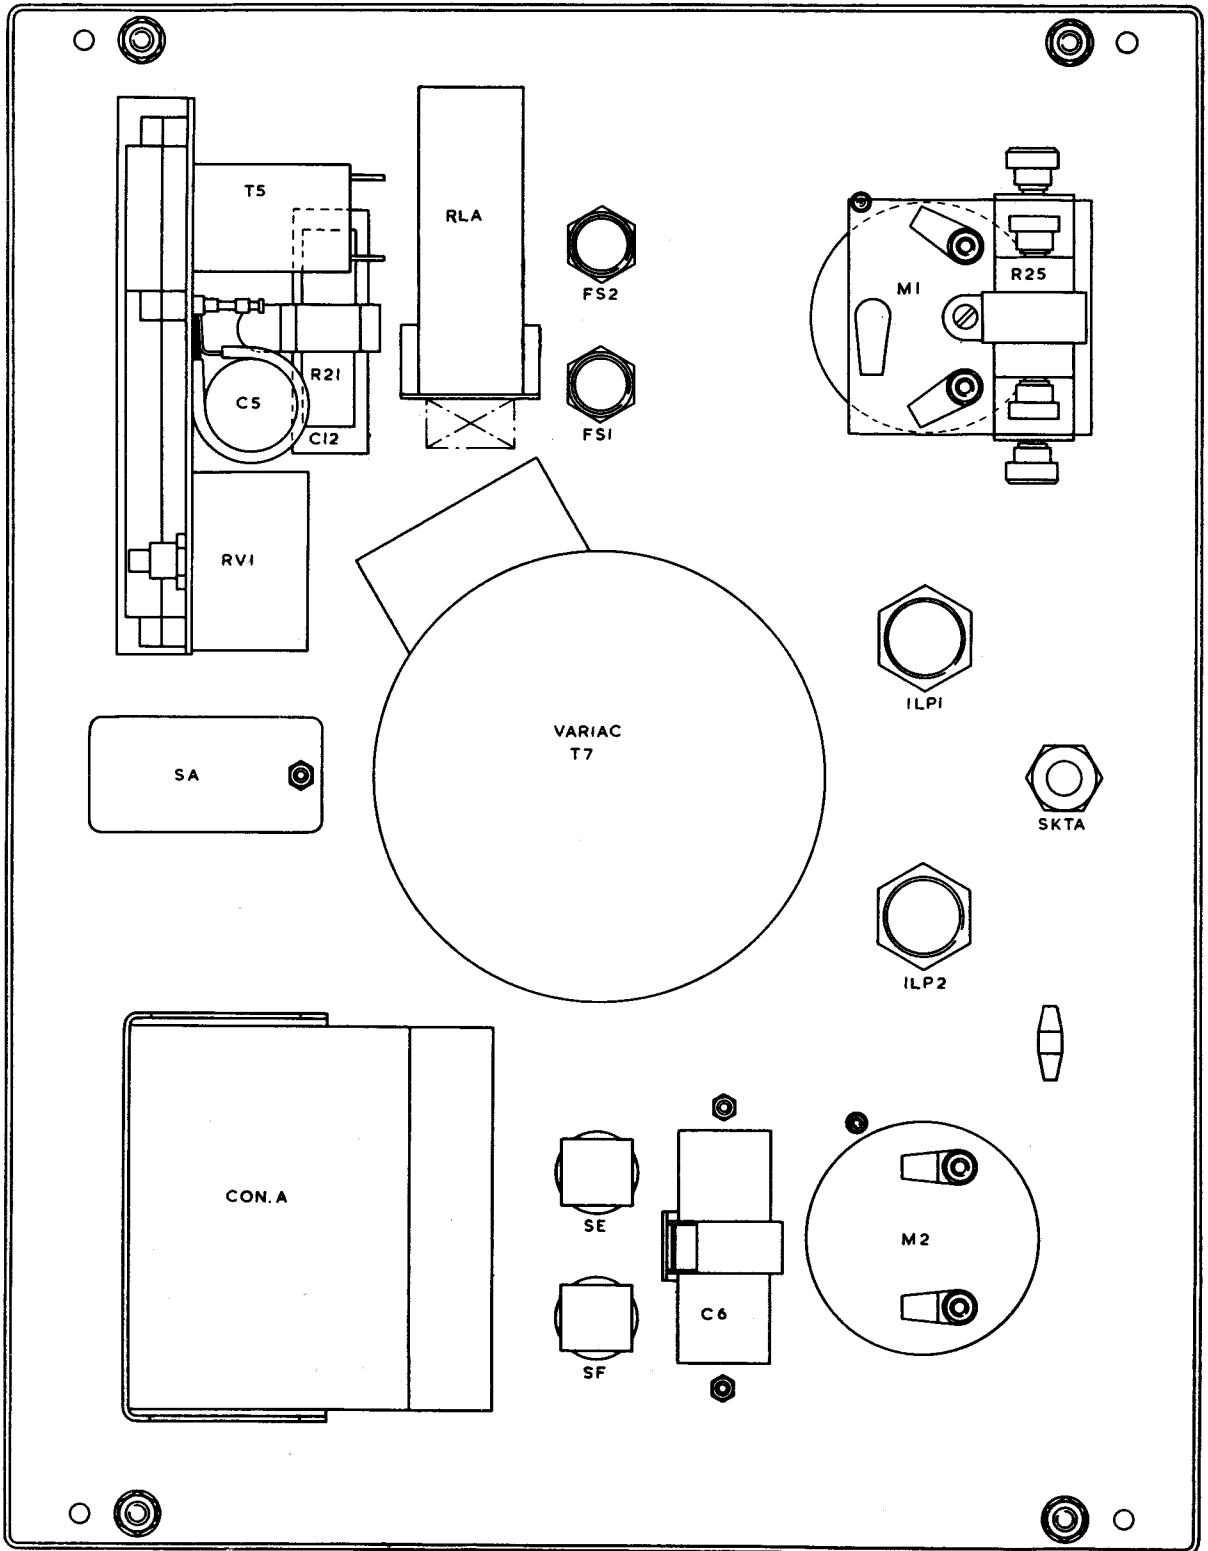

Fig. 6. Control panel : rear view
to contactor A mounted on the rear of the control panel (*fig. 6*). Contactor A closes and feeds the  $240\text{V}$  a.c. supply to transformer T5 and to variac T7, when the H.T. ON switch (SE) is operated. A  $6.3\text{V}$  a.c. supply is fed from the secondary of T5 to the H.T. ON indicator lamp ILP1. Variac T7 controls the level of the a.c. applied to e.h.t. transformer T4. The a.c. output of T4 ( $0\text{--}20\ \text{kV}$ ) charges the p.f.n. positive via the half-wave rectifier network of MR1–MR20. With the variac set to give a maximum a.c. output (i.e.  $240\text{V}$  a.c.) the p.f.n. charges to a maximum peak voltage of  $28.5\ \text{kV}$ . When thyatron V1 or V2 conducts (i.e. with the application of the firing pulses from the trigger circuit) the p.f.n. is discharged into the dummy load. The result is a  $1\ \mu\text{s}$  pulse (the total delay time of the p.f.n. (with an amplitude of half the voltage charge of the p.f.n. is developed across the  $50\text{-ohm}$  dummy load. The dummy load, R8–10, and R22–R24, is mounted in the rear of the trolley and is cooled by fan BL1.
14. Contact RLA1 is normally closed but opens if the mean current through the thyatron being pulsed exceeds a pre-determined level. Relay RLA is connected in series with the secondary winding of the e.h.t. transformer T4: RV1, connected across RLA, is normally adjusted so that relay RLA operates when the mean current through the thyatron being pulsed exceeds  $20\ \text{mA}$ . Relay RLA and its associate circuit components are mounted on the rear of the control panel (*fig. 6*).